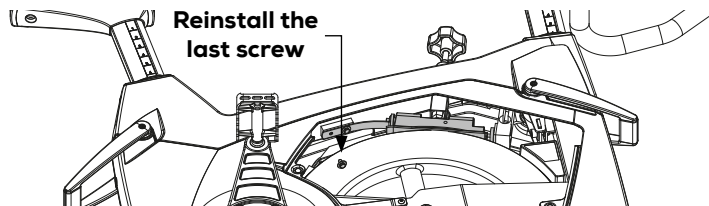

Figure 26
4) Fasten the remaining screw furthest away from the block, and then make sure that both screws are tightened properly, see figure 26.